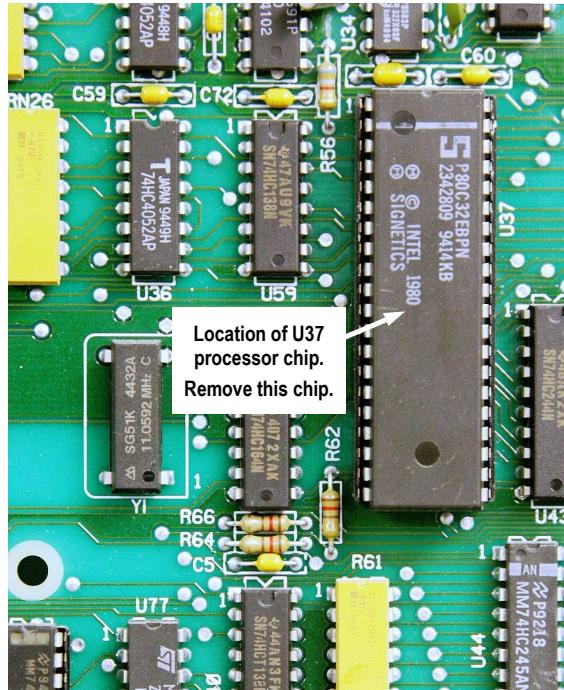

Fig. 3: Remove the processor chip located in "U37".
3. **IMPORTANT: To avoid damaging the Accelerator board pins, remember to remove U37, the 40-pin processor chip.** Location U37 is the 40-pin receptacle into which the Accelerator PCB will be placed. See image in Fig. 3 for the location.